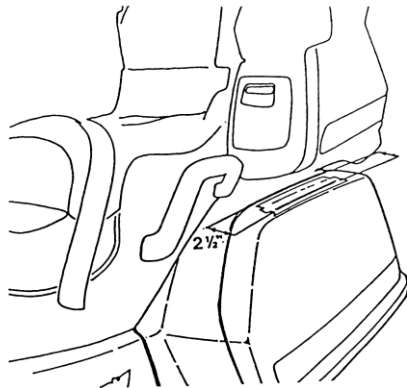

Figure 1
1. Place bike on center stand. Place a stripe of masking tape on the top of each saddlebag lid as shown in **Figure 1**. This will help you to protect the lids' finish during the installation process.